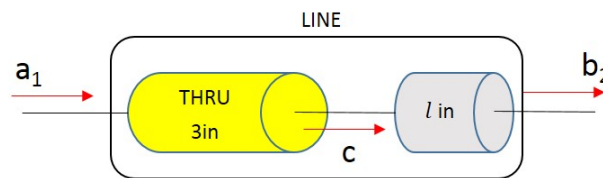

Figure 2: LINE standard break-down equivalent circuit
3. Show the relative phase between your LINE and THRU standards in your design? (**Hint:** In Figure 2, $\frac{b_2}{c}$ could give the relative phase between LINE and THRU)